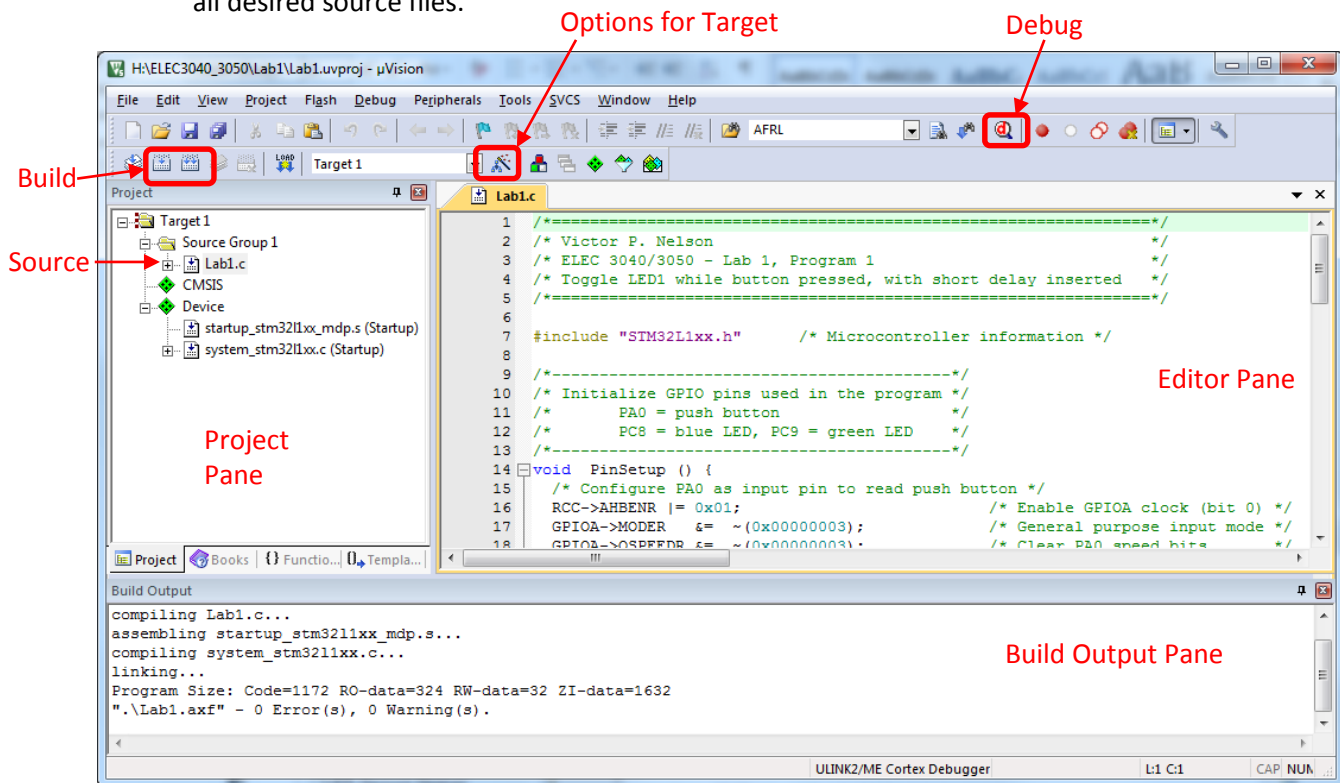
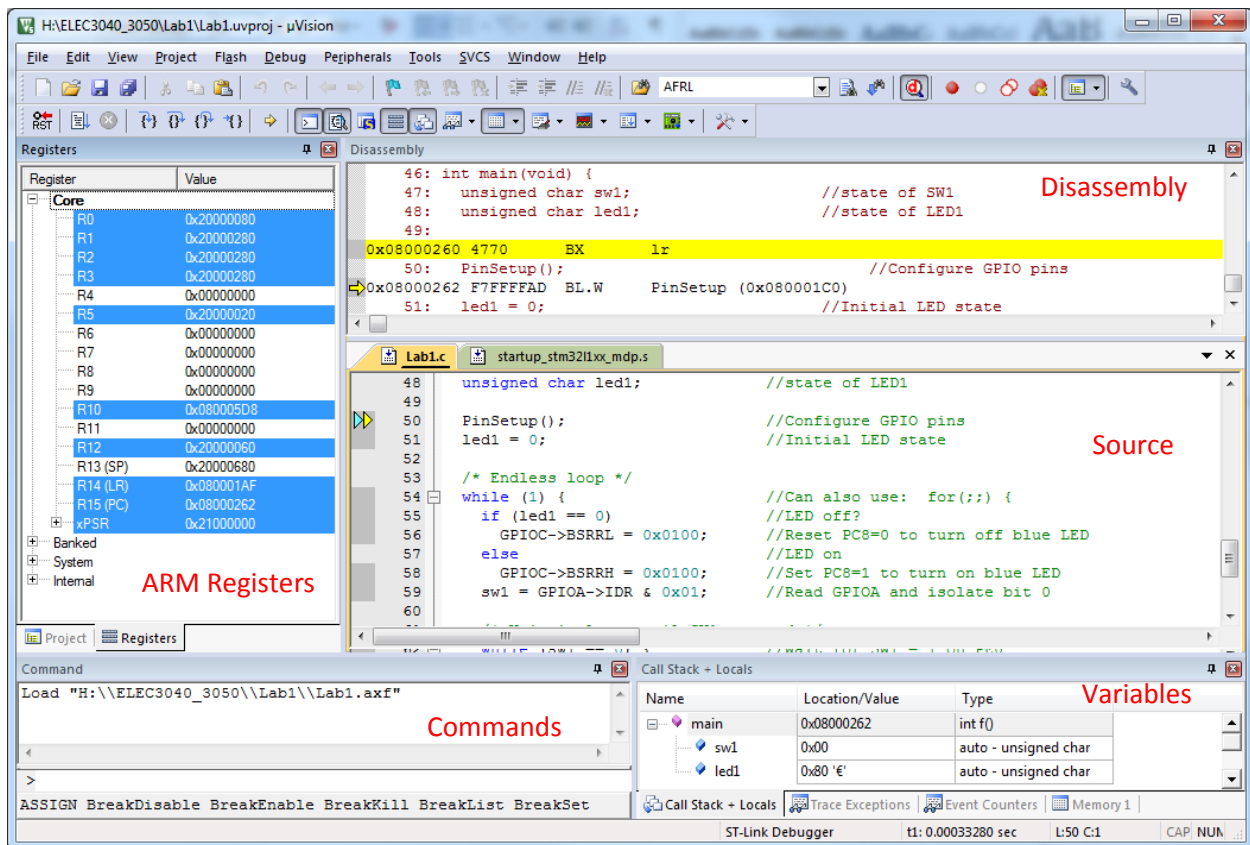

Figure 4. Add source file(s) to Source Group 1 in the Project pane, and build the project.
Figure 8. MDK uVision5 debug window.
4. In the **Project** pane of the  $\mu$ Vision5 window (Figure 4), create and add source file(s) to the project.
- Click the **Debug** icon in the  $\mu$ Vision5 window (Figure 4), or select **Debug**  $\rightarrow$  **Start/Stop Debug Session**. This will download the project code to the target board, program it into the microcontroller's flash memory, and open the Debug Window (Figure 8).